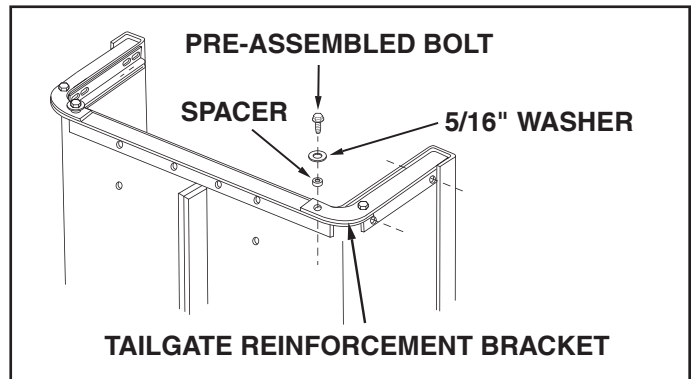

FIGURE 1
3. Remove the bottom two pre-assembled bolts in the tailgate reinforcement bracket. Assemble a 5/16" washer and spacer onto the bolt and reassemble it to the tailgate reinforcement bracket. See figure 1.